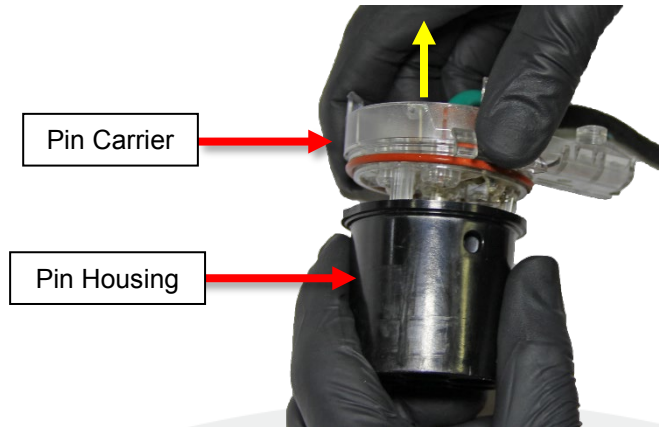

Figure 27
8. Remove the pin housing away from the pin carrier (Figure 27).